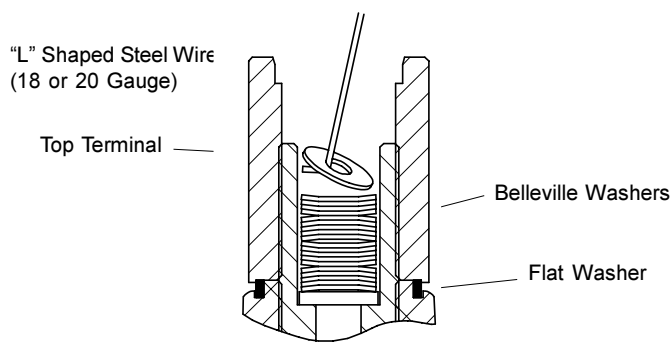

Figure 4: Removal of Belleville Washers
1. Remove all the washers from the top terminal/core extension using an "L" shaped wire as shown in Figure 4.